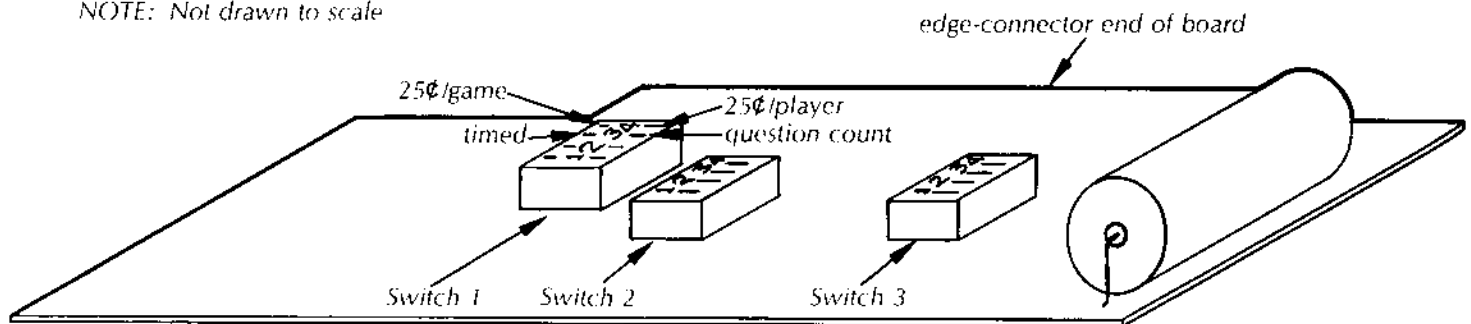

Figure 4-1 Approximate Locations of Adjustments on PCB II for Game Structuring
Examine the surface of PCB II and locate the three SPST (single-pole, single-throw) DIP switches. It will not be necessary to unplug and remove the board from the electronics tray. The designations "SW1," "SW2" and "SW3" are engraved onto the surface of the PCB alongside the switches. Figure 4-1 shows the approximate locations of these switches, and drawing number A005231 in Section VII of this manual shows their exact locations.
4.3.1 25¢/PLAYER—25¢/GAME: This option is selected on Switch 1, at the rearmost pair of buttons (position no. 4) on the switch assembly (closest to the edge connector end of the board). Figure 4-1 is labeled to show the structuring for each of the two stud positions. Note that the pairs of buttons labeled "1" and "2" are not used in the Quiz Show game.
4.3.2 DURATION OF GAME SEQUENCE: Positions on both Switch 1 and Switch 3 have to be selected. Position no. 3 on Switch 1 determines whether the duration is to be a fixed time or a fixed question count. Figure 4-1 is labeled to show the structuring for each of the pairs of buttons. The position selected on Switch 3 determines the number of seconds in the fixed time, or the number of questions in the fixed question count. Table 4-1 summarizes the structuring set up by the various combinations of positions on Switches 1 and 3.